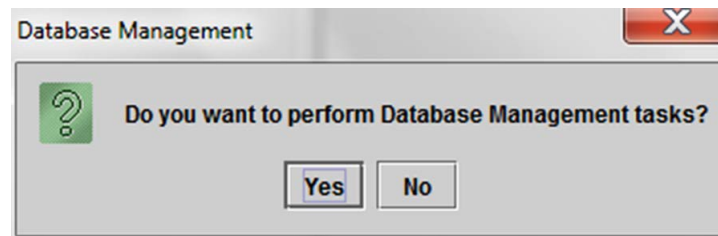
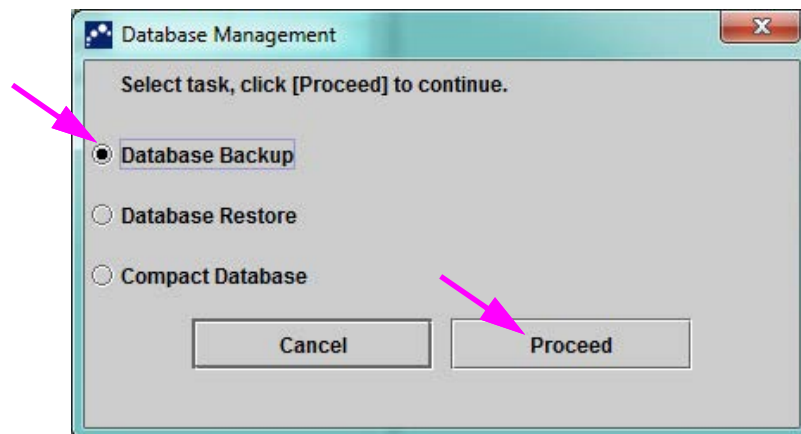

Figure 2-78. Database Management Dialog Box
Figure 2-79. Database Management Dialog Box
If an archive is not overdue, or if an archive setting in Figure 2-61 is **not** selected, Figure 2-78 will not appear, and you can skip directly to Section 2.17.1.2.
If an archive is overdue, the Test Archive Reminder dialog box will appear (see Figure 2-78).
- If you do not want to archive, click **No** in the Test Archive Reminder dialog box (see Figure 2-78). Continue the shutdown sequence without archiving, in Section 2.17.1.2.
- If you would like to archive, click **Yes** in the Test Archive Reminder dialog box (see Figure 2-78) to continue the shutdown sequence with archiving. The Select Test(s) To Be Archived screen appears. See Figure 2-79.